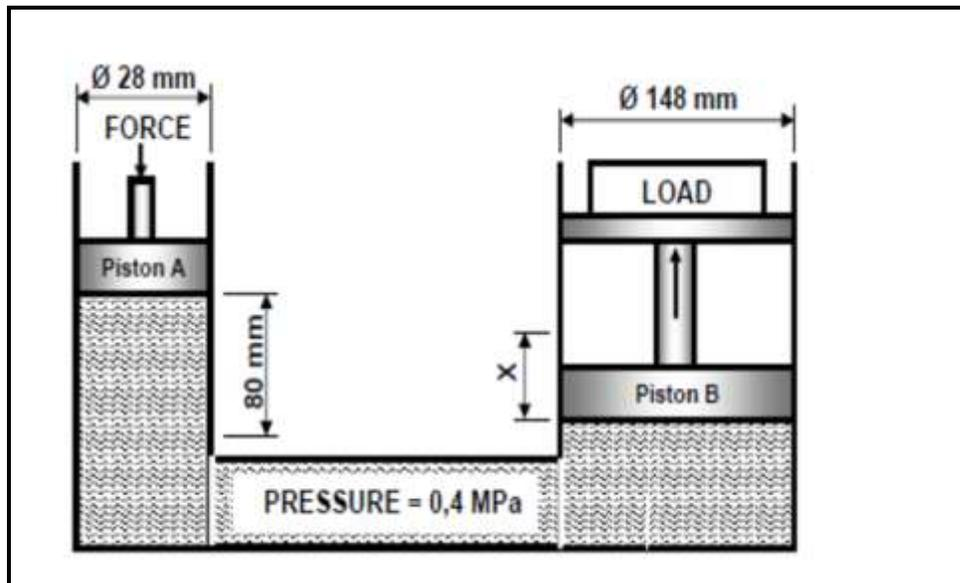

FIGURE 1
**QUESTION 2** A hydraulic system is being used to move machine parts during the assembling process. The specifications of the system are diagrammatically presented in FIGURE 1